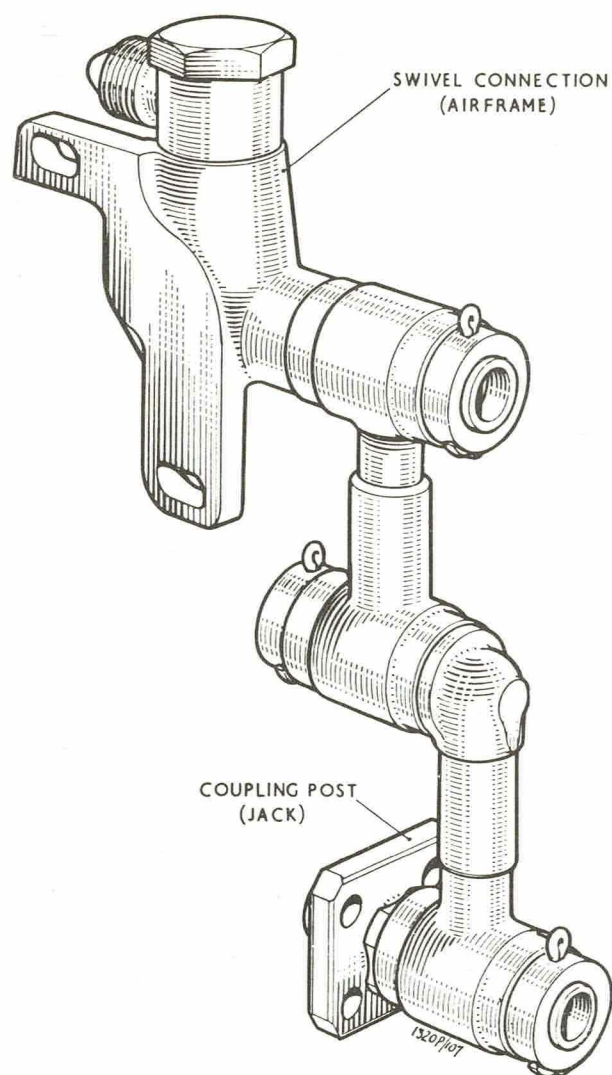

Fig. 1 Swivel pipe unit 100603001
1. These swivel pipe units are attached to a specific nose undercarriage jack to carry a normal or emergency supply of fluid for the extension of the jack and allow for movement of the jack during operation. The units differ from each other at the airframe attachment points. Type No. 100603001 has a swivel connection formed with lugs and tapped to receive a banjo bolt securing a banjo connection (fig. 1). Type No. 100618001 has a swivel